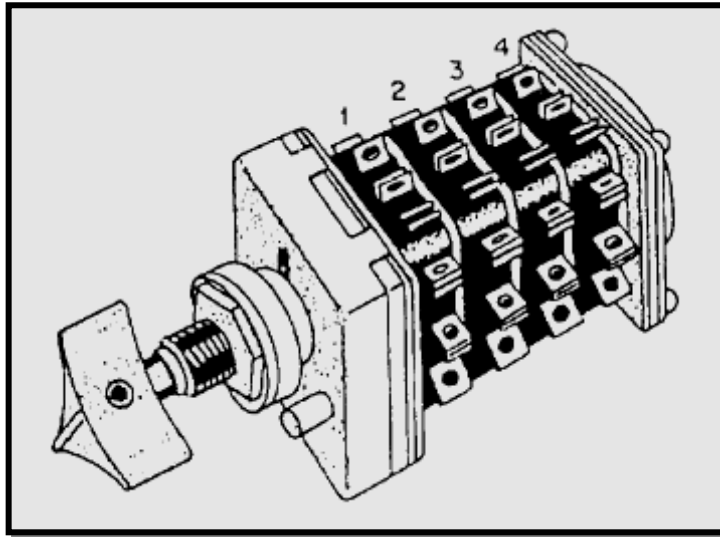

Figure 2-11.—Type JF switch.
**TYPE JF.**— The JF switch (fig. 2-11) was developed primarily to replace toggle switches in the 10- and 20-switch boxes for sound-powered telephone applications.